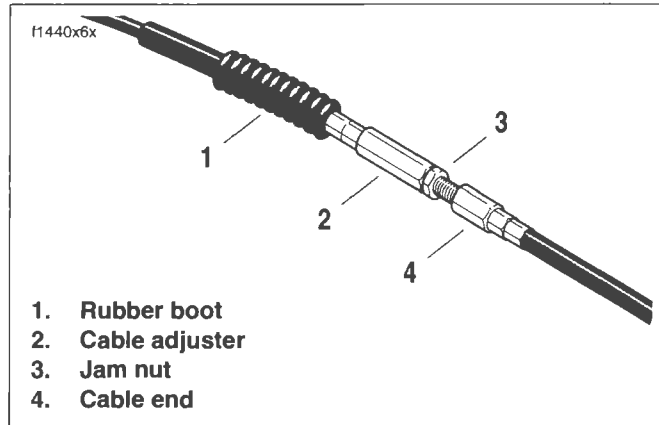
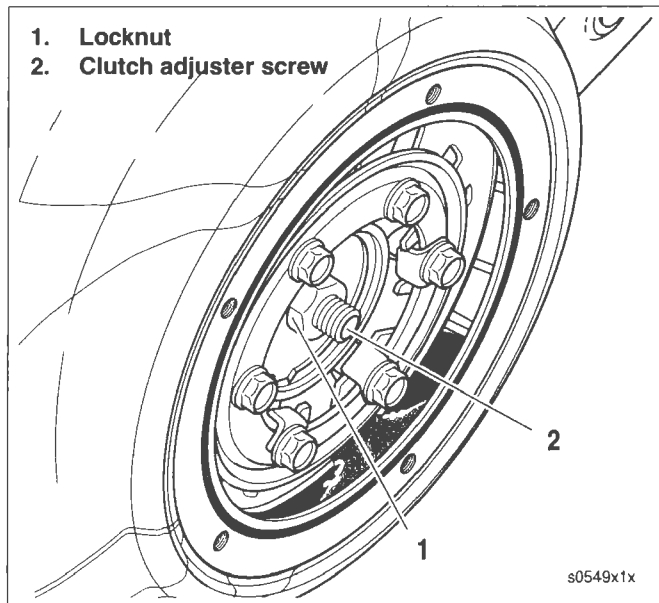

Figure 1-25. Clutch Cable Adjuster
Figure 1-26. Clutch Adjuster Screw
4. See Figure 1-25. Add free play to cable.
- a. Slide rubber boot (1) off cable adjuster.
- b. Holding cable adjuster (2) with 1/2 in. wrench, loosen jam nut (3) using a 9/16 in. wrench.
- c. Turn cable adjuster (2) until there is a large amount of free play at clutch hand lever.
5. See Figure 1-26. Loosen locknut (1) on clutch adjuster screw (2). To take up all free play, turn screw inward (clockwise) until lightly seated. Activate the clutch lever to verify the balls are seated in the ramps.